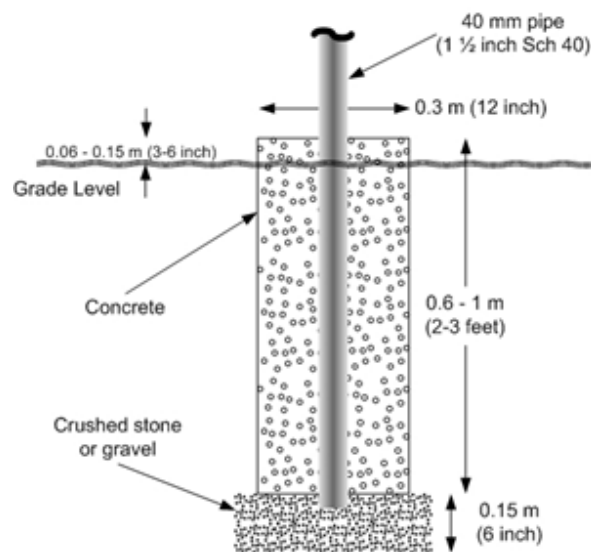

Figure 2.1.2-1 Site Preparation – Concrete Footer
- Support Structure - If the sensor is to be installed as a stand-alone instrument, prepare a concrete footer as shown in Figure 2.1.2-1. It is recommended that depth of the concrete footer is below the frost line to avoid heaving. When preparing for the concrete footer also plan for earth grounding, power wiring, and signal wiring
- The Sentry™ may also be installed on an existing structure such as a traffic pole or triangular tower using the optional 74050 Mounting Bracket. A customer provided boom arm structure may also be assembled from 1 ½ inch schedule 40 pipe & fittings as shown in Figure 2.1.2-2. The boom arm structure should be attached to the side of the triangulate tower with U-bolts or similar hardware. When selecting which side of the tower to use, make certain that the sensor sample volume is facing away from the tower and not over the boom arm while still aligning the receiver optics facing in a northerly direction or parallel with the roadway.